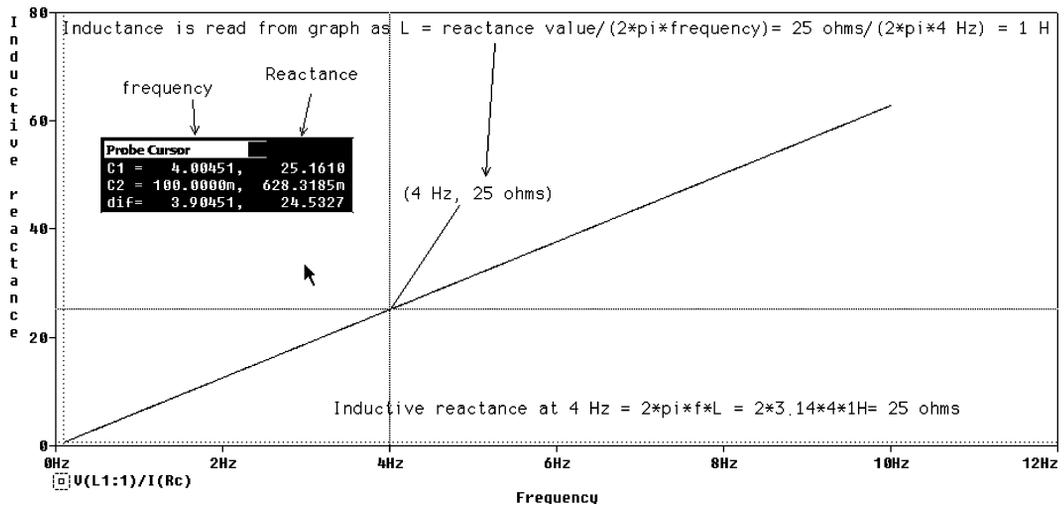

FIGURE 5.7: Inductive reactance plot
divide the variable by the inductor current i.e. $V(L1:1)/I(L1)$. Change x -axis **Scale** to **Linear** scale by selecting the **log/lin** icon. This makes the inductive reactance ωL plotted as a linear increase with frequency shown in Fig. 5.7. The impedance of an ideal inductor (Joseph Henry 1797–1878) is zero at zero frequency (DC) and is an open circuit at infinity frequency.